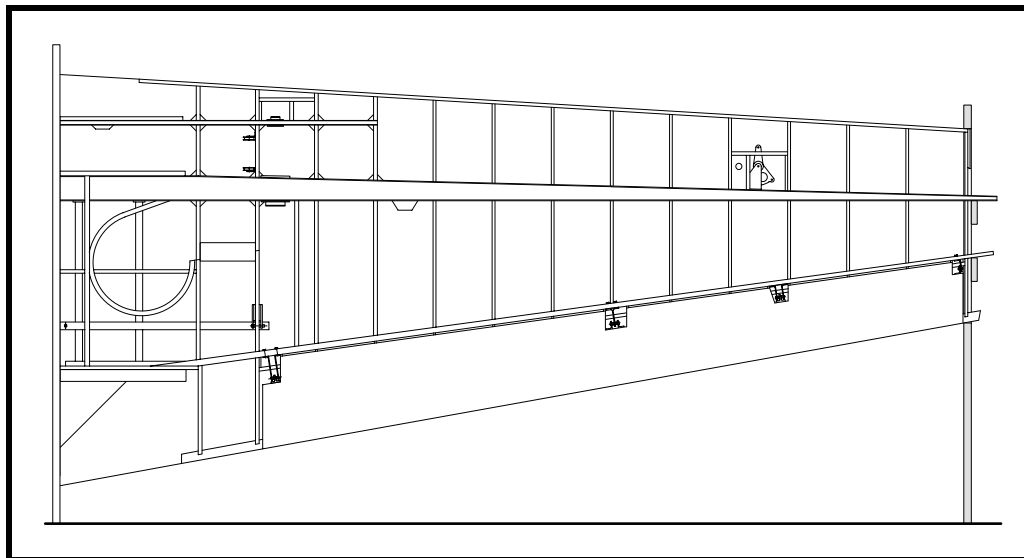

Figure 23
- ❑ For “open air” wheel well installation—fit and install the lower wheel well ring. See Figure 23. At the aft end of the wheel well, install a 20x10 spruce post between the upper ring and the lower ring. This will support the lower ring while it is being sanded.